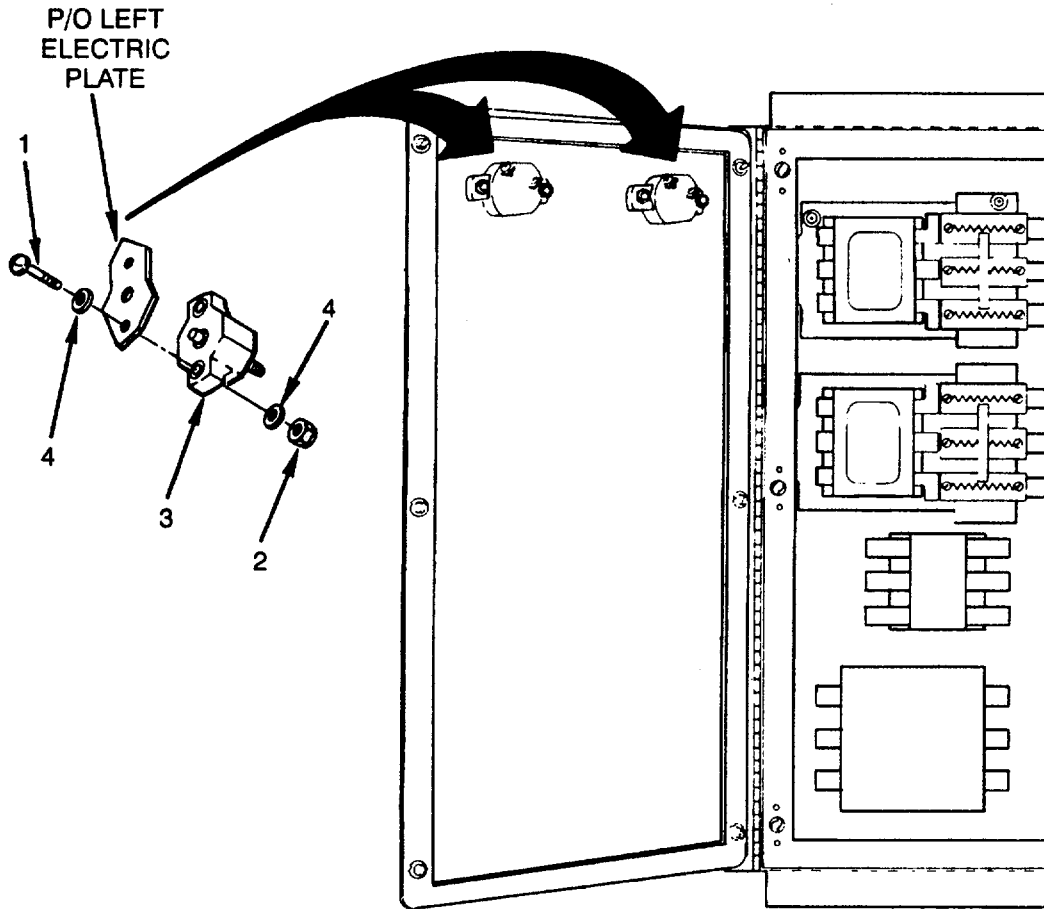

Figure 4-65. Circuit Breakers (CB1-CB3).
1. Check that mounting hardware and circuit breakers (3) are in place and secure (see Figure 4-65).